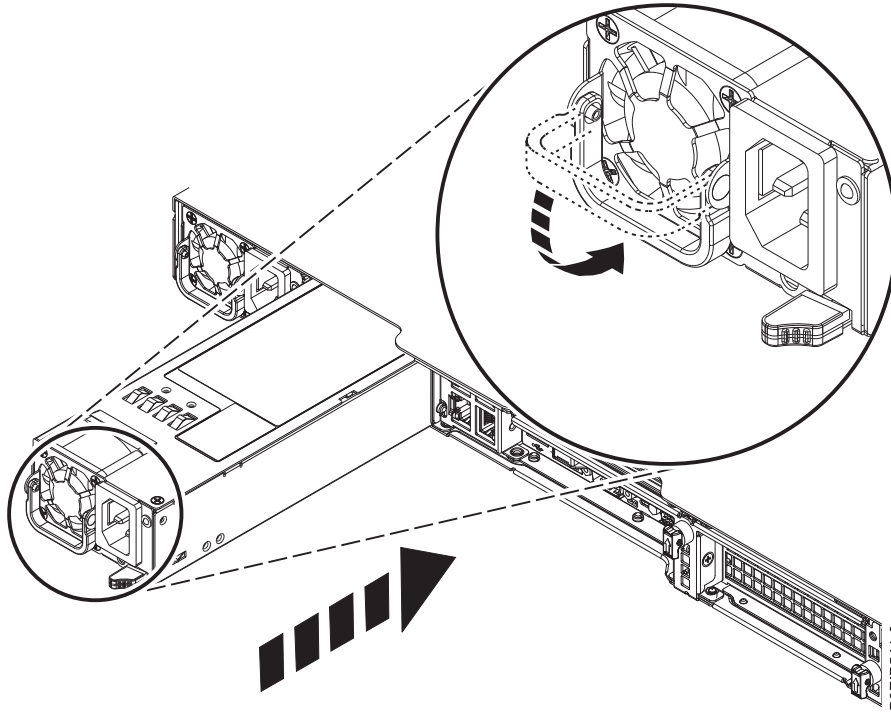

Figure 28. Replacing a power supply in the system
2. Align the power supply with the bay as shown in Figure 28. The fan is on the left; the plug is on the right. Slide the power supply into the system until the latch locks in place.